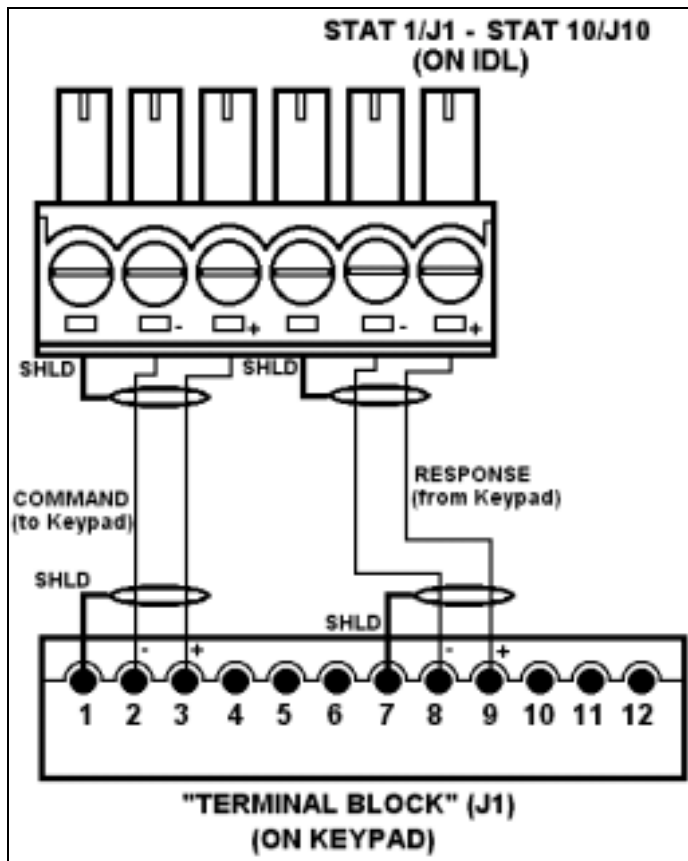

Figure 5
Connect the 6 dressed wires from the other end of the Station 1 (J1) cable to the Terminal Block (J1) on the Keypad. Use the pin designations in Figure 5 for connection.
2. Connect the Master Keypad end (open wires) of the cable to the Screw Terminal Block (J1) on the Keypad, as shown in Figure 5.